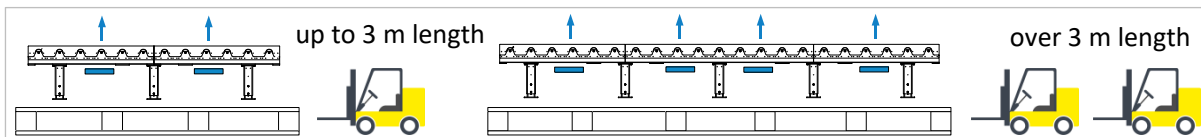

Figure 6: Lifting the roller conveyor off the transport pallet
- Guide the appropriately wide set forks to the points marked in ⇒ Figure 6 (left).
- Guide the appropriately wide set forks to the points marked in ⇒ Figure 6 (right).